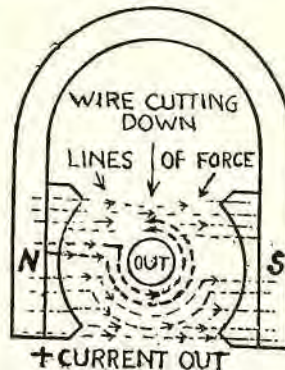

Fig. 10A
tary current will flow in the wire (as in Fig. 10A) which is in a direction *out* of the wire or toward the surface of the paper. This is because the lines-of-force, when forced *down*, will act like rubber bands, i.e., first stretch, then loosen from the (S) pole (the weakest point), and tend to wrap around the wire and whirl counter-clockwise.
The principle or action is the same as that shown in Fig. 10A, where the wire was moved down to cut the lines. Therefore this electromagnetic induction or self-induction would tend to cause the lines-of-force to whirl around the wire in a counter-clockwise rotation, causing the generated e.m.f. to buck or oppose the battery e.m.f., called "counter-electromotive force." In other words, we have two electromotive forces to deal with in the same wire: the induced e.m.f. produced by the magnetic whirls caused by current from the battery passing through the wire, and a generated e.m.f., caused by these same magnetic whirls, cutting the coils of wires as they build up around the coil.